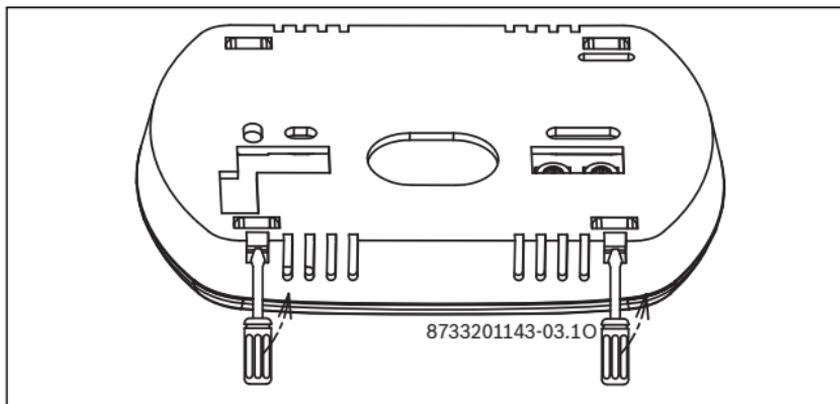

Fig. 3
- ▶ Plug flathead screwdriver into recesses at product bottom, and move up to open back cover, as shown in Fig. 3.